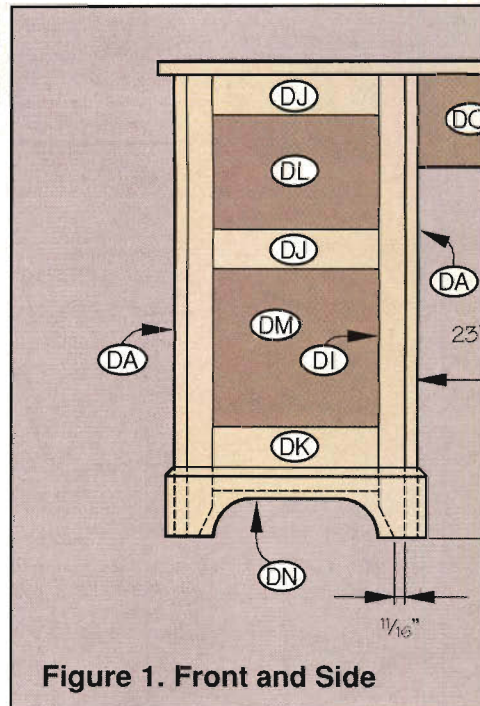

Figure 1. Front and Side
Cut the 13/16" X 3/8" deep dados in the middle and bottom rails (DC and DD), and the rabbet (same size) in the top rails (DC) to accept the frame members. Refer to the cross-section detail to Figure 1. Next, cut and rout the back stiles (DI) and the back rails (DJ and DK) to size.